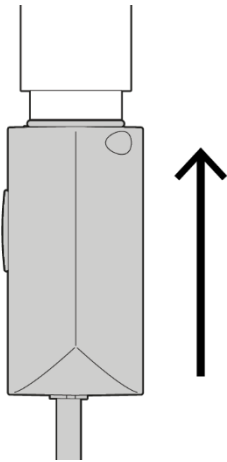

Figure 8
- Insert the regulator into the electric heating element connection (Fig. 8), applying slight pressure until the regulator is fully inserted; make sure the wires go all the way in and do not stick in the first part of the hole.